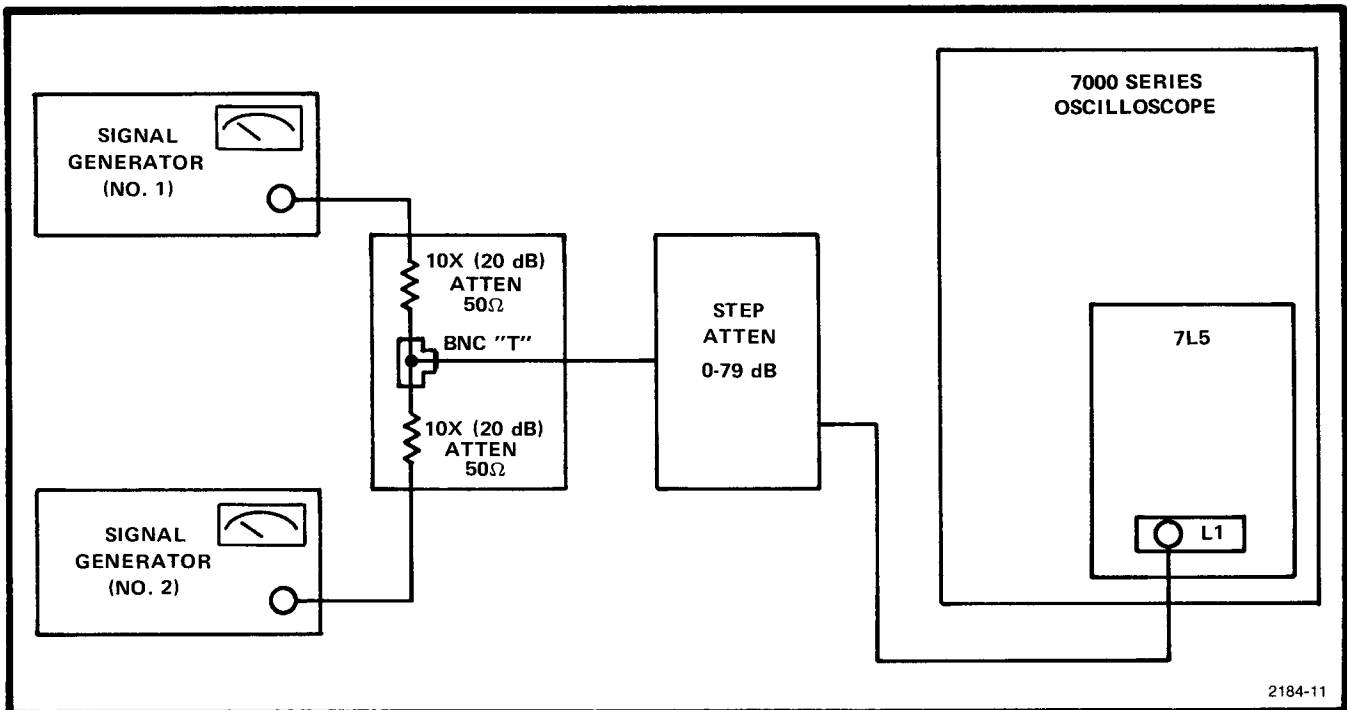

Fig. 3-5. Intermodulation distortion test equipment setup.
a. Connect test setup in accordance with Fig. 3-5. Set the 7L5 front panel controls as follows: